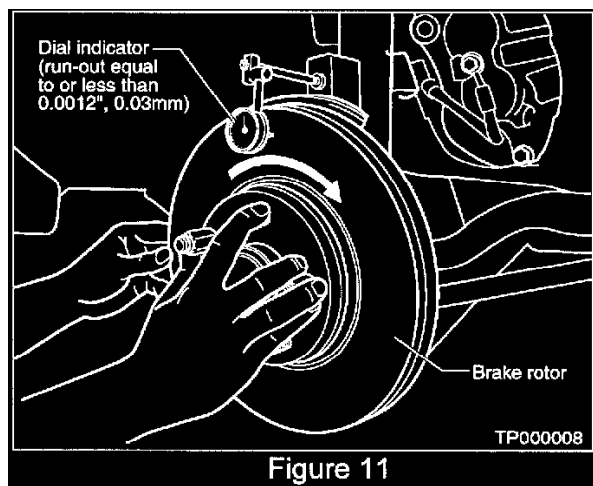

Figure 11
- ^ If new rotors are required, install them on the hub in different positions (index) to achieve the lowest run-out reading (equal to or less than 0.0012", 0.03 mm), using a dial indicator. See Figure 11.
20. Use a dial indicator to ensure the rotor run-out is within specification (see Figure 11). Rotor run-out should not exceed 0.0012" (0.03 mm).